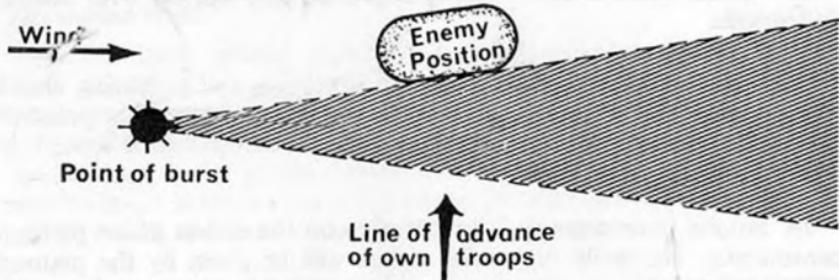

Fig 9.—Use of smoke in a cross wind
79. **Cross winds** (*see Fig 9*). The bombs should fall up wind of the target and slightly in front of it. The distance up wind will depend upon the wind's strength. As soon as the firer has found his correct point of burst he should fire another bomb immediately to obtain the necessary density. Thereafter he must feed the screen by observation, taking into account:—